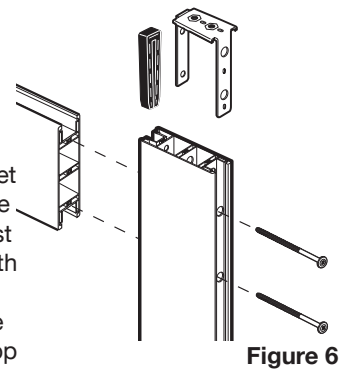

Figure 6
See Figure 6.
Place 2 of the 4" screws (Z) into the 2 holes in the outside of the Stile channel. Make sure they are fully inserted. Slide a reinforcement clip (D) into the channel and over the screw shafts. See Figure 6.